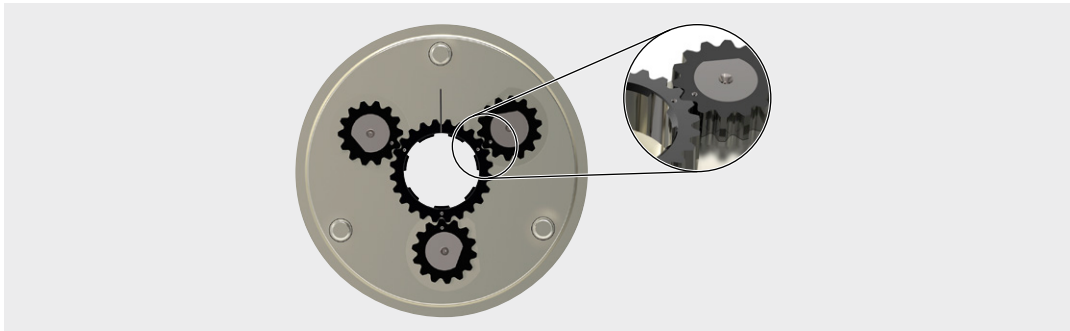

Fig. 18: Aligned gears of the roll cage
15. Align the gears as shown in Fig. 18 Aligned gears of the roll cage: